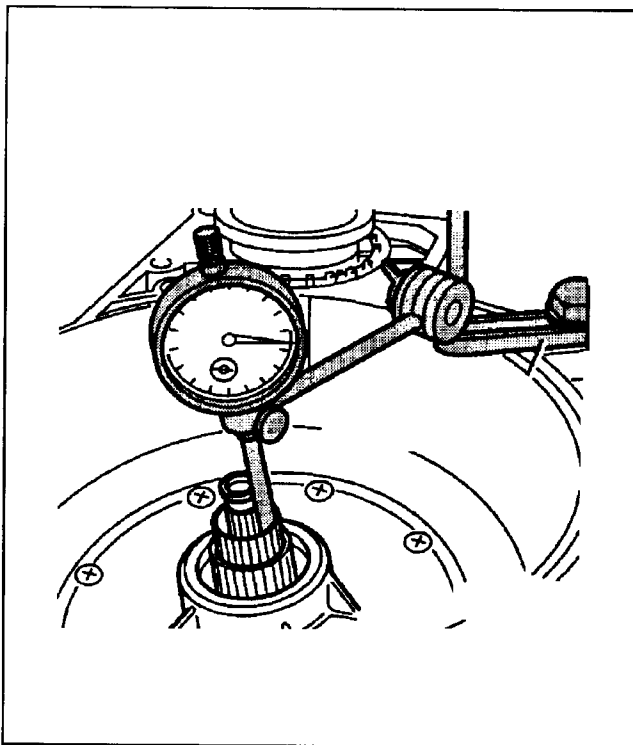

Figure 163
33. Check the end play on the turbine shaft. After the pump has been installed, attach a dial gauge holder to the transaxle housing, and place a dial gauge on the turbine shaft with a preload of 1 mm (See Figure 163).